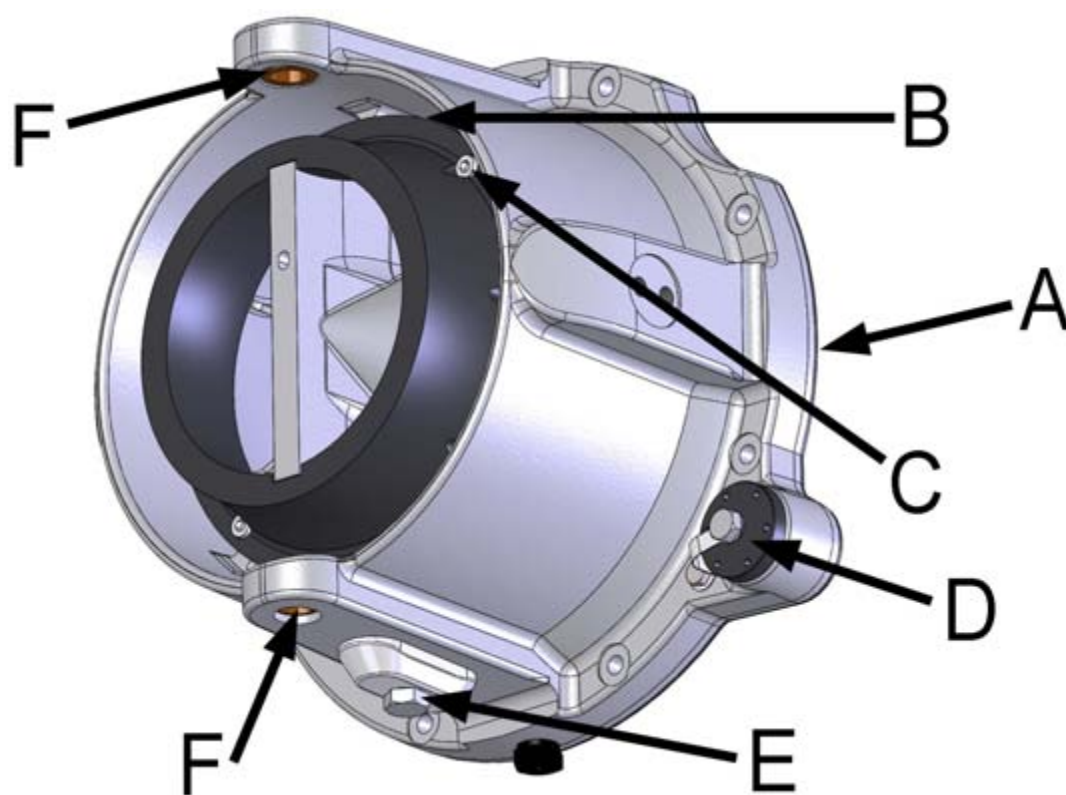

Figure 84. Stator's replaceable parts
- seals (figure 84, points A and B), seal B is between the choker and the stator
- choker (figure 84, point C)
- anodes (figure 84, points D and E)
- steering nozzle plastic bearings (figure 84, point F)
1. Remove the choker (figure 84, point C) fastening screws (6 pcs).